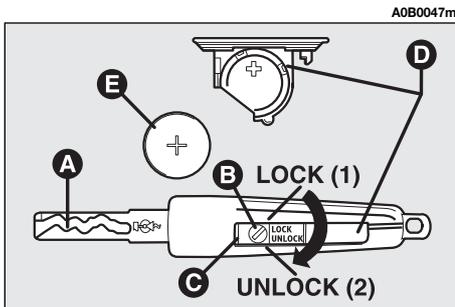

fig. 7
- To change the battery (fig. 7):
- move the metal insert (A) to the un-locking position;
- turn the pin (B), taking the reference mark (dot) of the cut to the **UNLOCK** position (2);
- working on the notch (C) remove the battery holder (D);
- change the battery (E) putting it in the position shown on the holder;
- insert the holder back in the key and lock it, turning the reference mark of the pin (B) to the **LOCK** position (1).